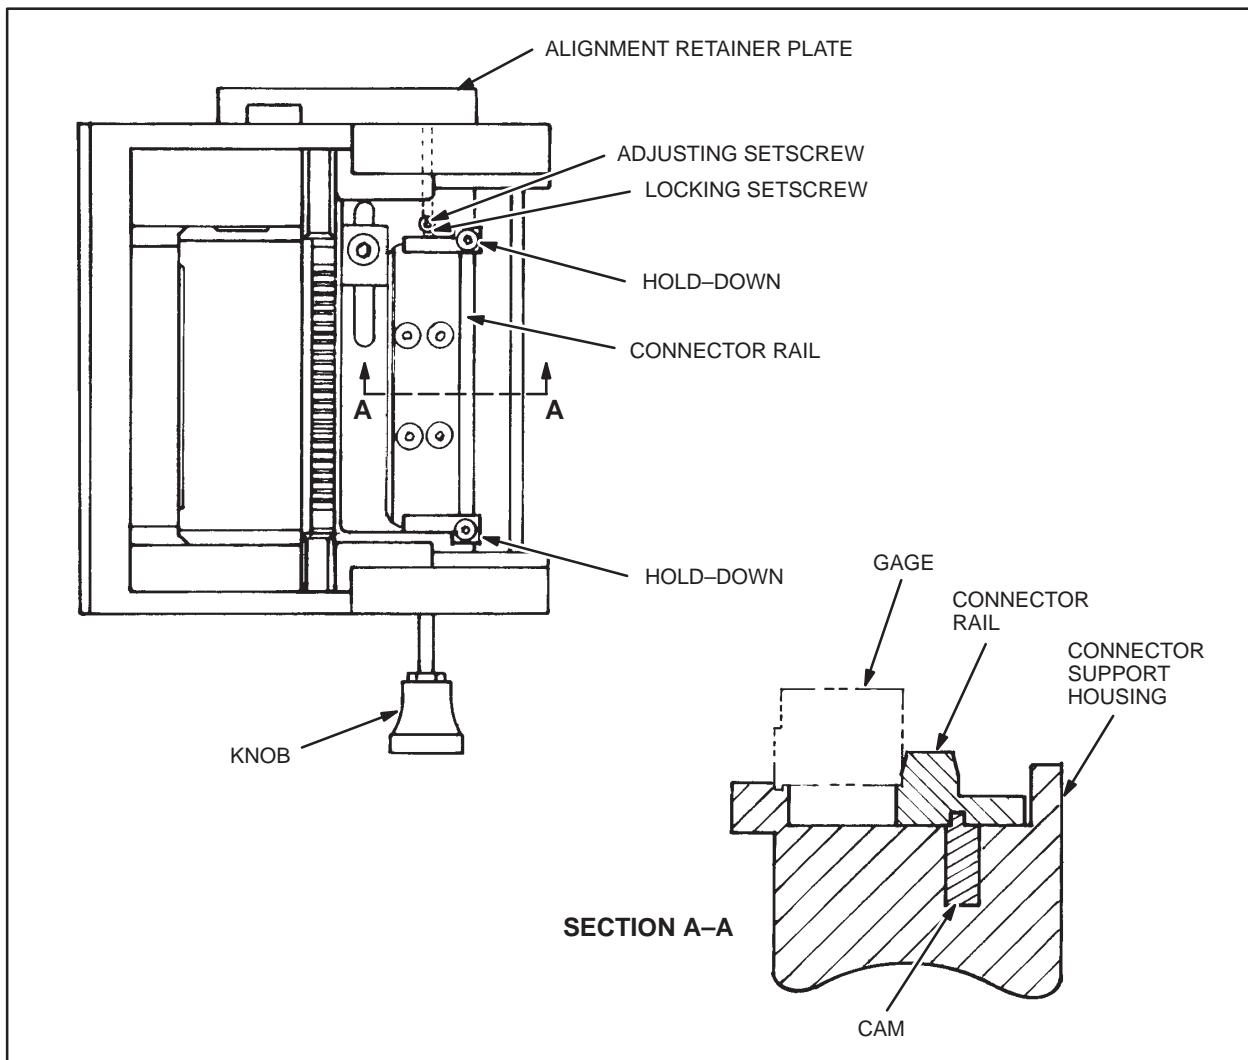

Fig. 7-2. Connector Rail Adjustment
1. Pull the knob so that the connector rail moves to the RIGHT. Install Gage No. 843884-1 (supplied with the machine) as shown in Figure 7-2, Section A-A. The specially-machined step in the gage must be placed to the LEFT, as shown.